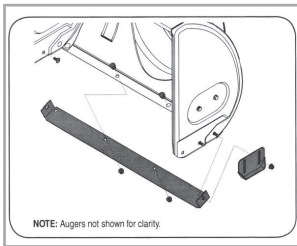

Fig.20
2. Reassemble new skid shoes with the four carriage bolts (two on each side) and hex flange nuts. See Figure 20.
2. Reassemble new shave plate, making sure heads of carriage bolts are to the inside of housing. Tighten securely. See Figure 20.